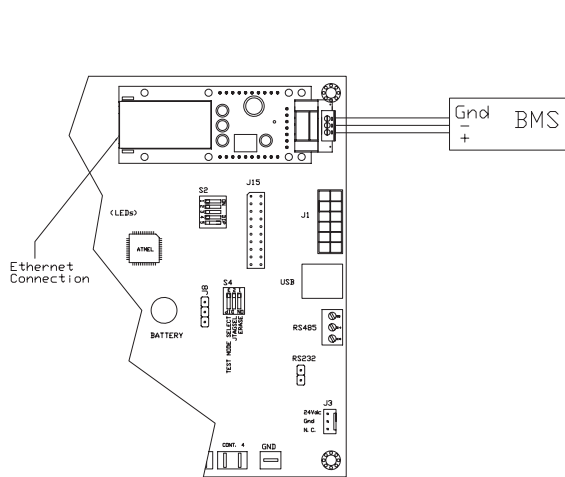

Figure 47-1. BACnet™ MSTP Wiring
- b. BACnet™ IP - The ethernet connection goes to the outside of the board.Make sure that all pins are seated properly and making a good connection. (See Figure 47-1)